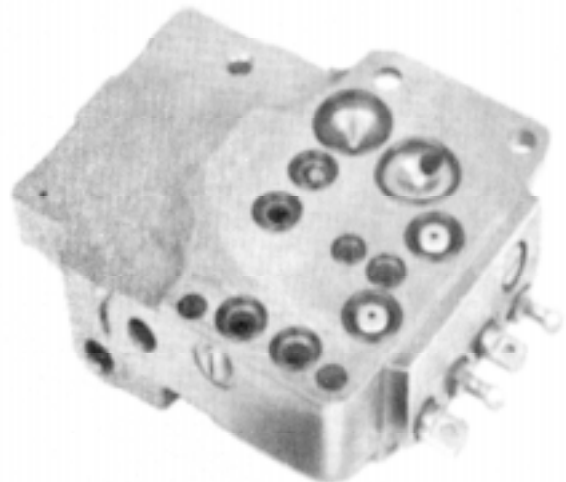

Figure 7
2. Install new lubricated 'O' ring seals in the correct locations, Figure 7.